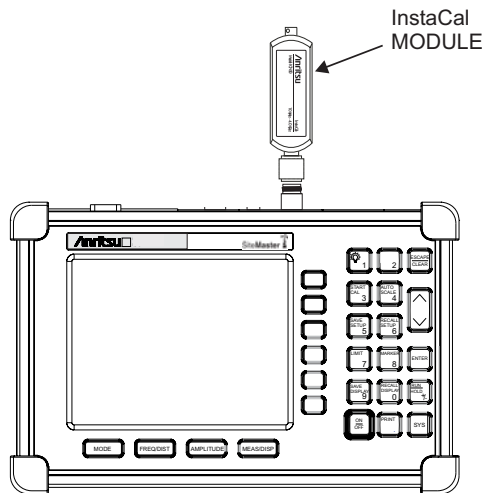

Figure 3-3. InstaCal Module Calibration
- Step 4.** Connect the InstaCal module to the RF Out port (Figure 3-3).
- Step 3.** Connect the InstaCal module to the RF Out port (Figure 3-3). The Site Master automatically sets the frequency from 25 MHz to 1600 MHz.